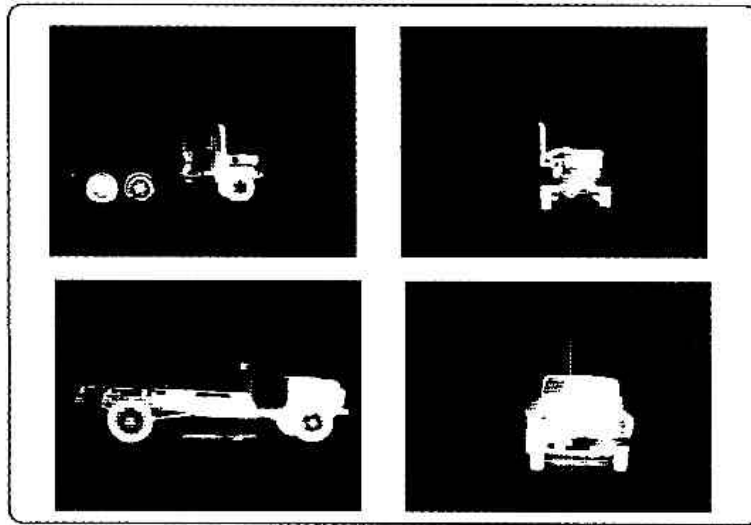

Figure A-4. Trucks.
d. **Trucks.** (All truck cues are combined) (Figure A-4).